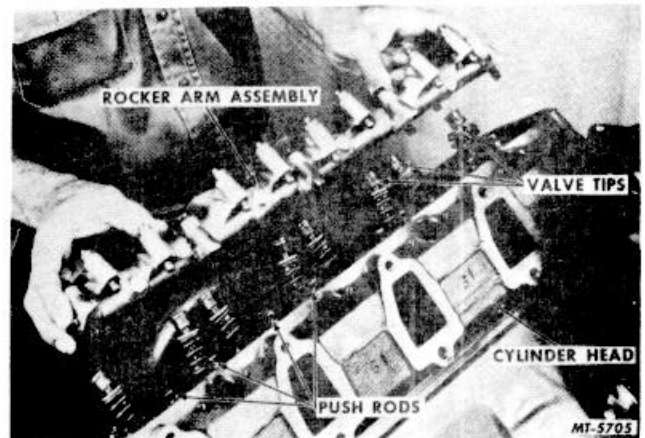

Fig. 44 Removing Rocker Arm Assembly
37. Remove rocker arm assemblies from cylinder heads (Figure 44). Remove valve tips from ends of valves. Withdraw push rods from engine.